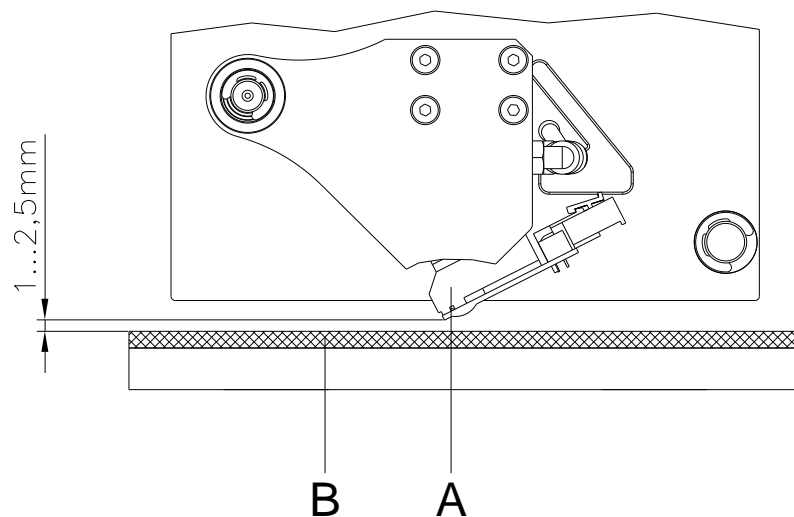

Figure 14
- For the attachment of the optional Valentin counter-pressure plate (A), appropriate threaded holes are designated at the bottom of the print mechanics (D). The suitable screws (B) are included with delivery of this option.
- The suitable distance between printhead and counter-pressure plate is already preset (see Figure 14).
- On the bottom face of the carrier of counter-pressure plate (A) are threaded holes M4 (C), which can be used for mounting the unit onto a plate or similar.